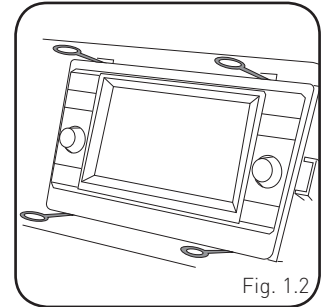

Fig. 1.2
- Remove the factory radio using the four (4) supplied radio removal tools. Slide them into the top and bottom locations with the tapered side facing inward until they click, then pull them outward to release the clips and remove the radio from the dash. Disconnect all harness. (Fig. 1.2)